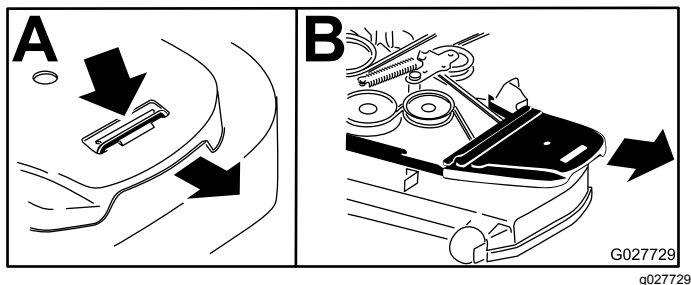

Figure 61
4. Remove the belt covers (Figure 61).